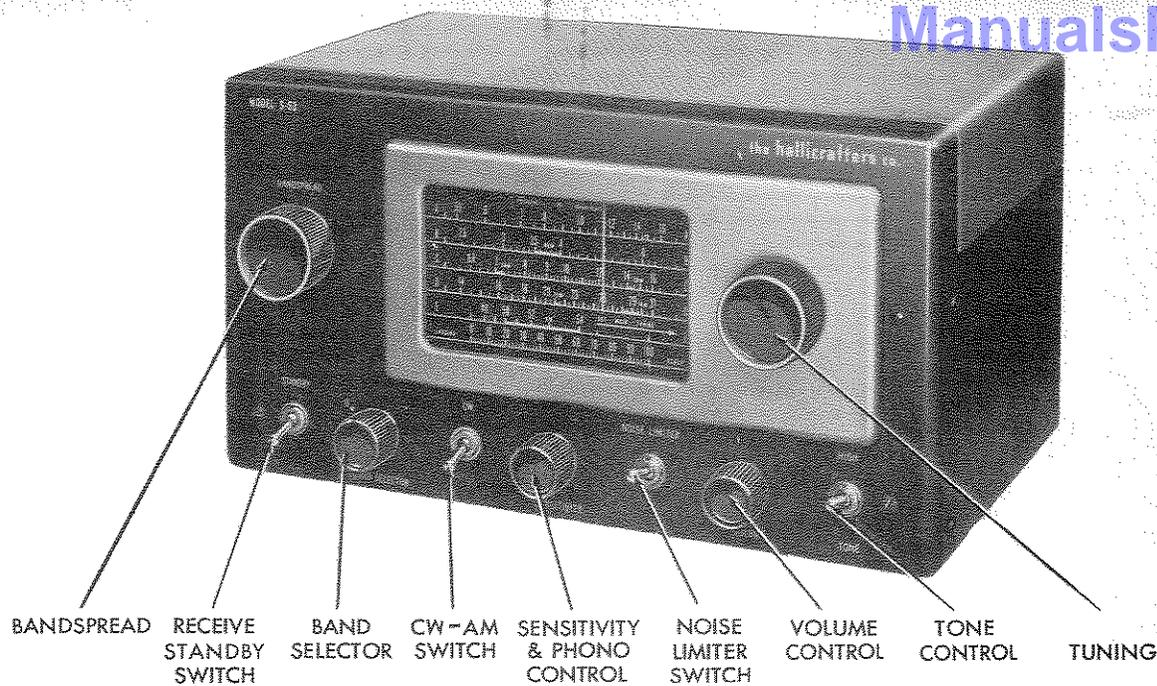

Fig. 1. Models S-53A and S-53AU
7. TUNING OF BANDS A, B, C, D - Set the BANDSPREAD dial pointer at 100. Tune in the desired station with the TUNING control (Fig. 1). For code (CW) reception, adjust the TUNING control for the desired pitch of the code signal when tuning.